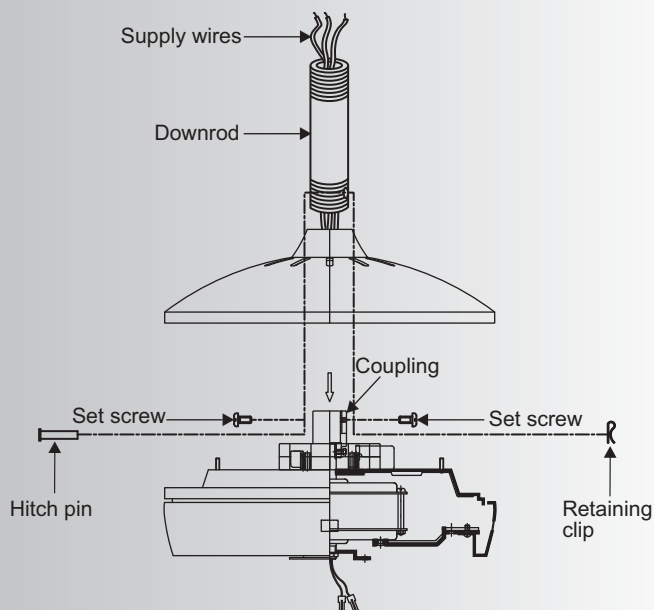

Fig. 9
Step 8. Loosen the two set screws and remove the hitch pin and retaining clip from the coupling on top of the motor assembly. (Fig. 9)
Next, replace the hitch pin and retaining clip. Tighten both set screws. (Fig. 9)